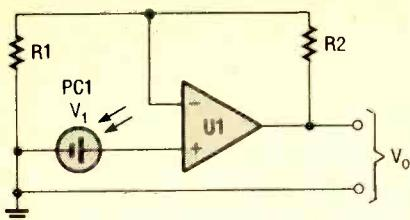

Fig. 3. This simple circuit is useful for buffering and amplifying the output of a photovoltaic cell for instrumentation.
**Circuit Variations.** Figure 3 shows two methods for tuning both the input and output circuits of the JFET-based preselector. In both cases, Q1 is wired in a common- (or grounded-) gate configuration, so the input signal is applied to the drain and output is taken from the source. The dotted line between C1-a
Some PV cells are meant to generate electrical power, while others are meant for instrumentation purposes. Figure 3 shows a typical circuit to interface a photovoltaic cell to instrumentation. The cell is connected across the non-inverting input of a high-impedance amplifier, such as the operational amplifier shown. The output voltage is found from: